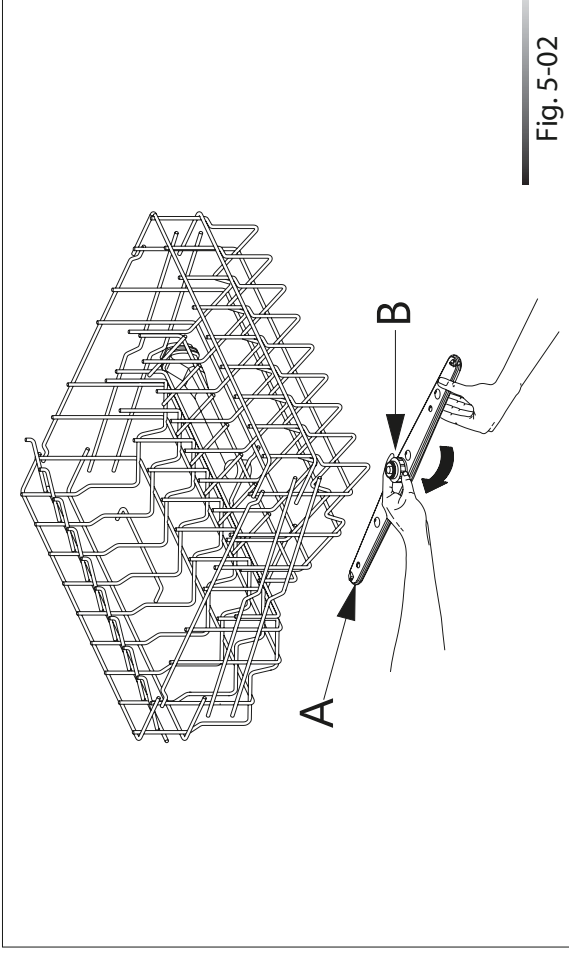

Fig. 5-02
- To remove the **upper** spray arm (ref. A fig. 5-02), unscrew the locking ring (ref. B fig. 5-02) by turning it clockwise. After cleaning, remount the spray arm in its seat and tighten the locking ring by turning it anti-clockwise.